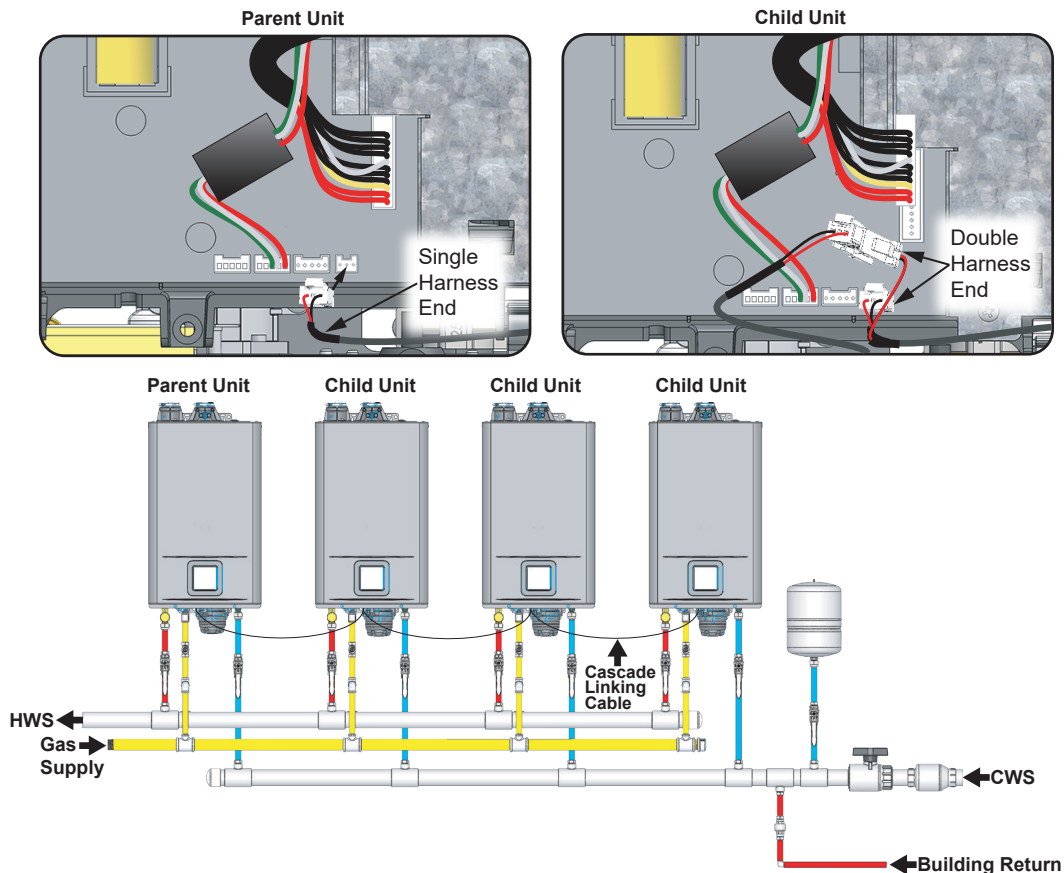

Figure 40 - Multi Unit Cascade Configuration
- 1 The Cascade system should be configured with the Parent water heater as either the first or last in the series of water heaters connected to the cold water supply. The Child units will follow sequentially. See Figure 40.
- 7 Use Figure 40 as a reference to locate the connection point for the Parent
- 9 If more than one Child water heater is used then route the single harness end of the second Cascade Linking Cable through rubber grommet on the bottom of the first Child water heater and connect it to the open harness on the first Cascade Linking Cable as shown in Figure 40.